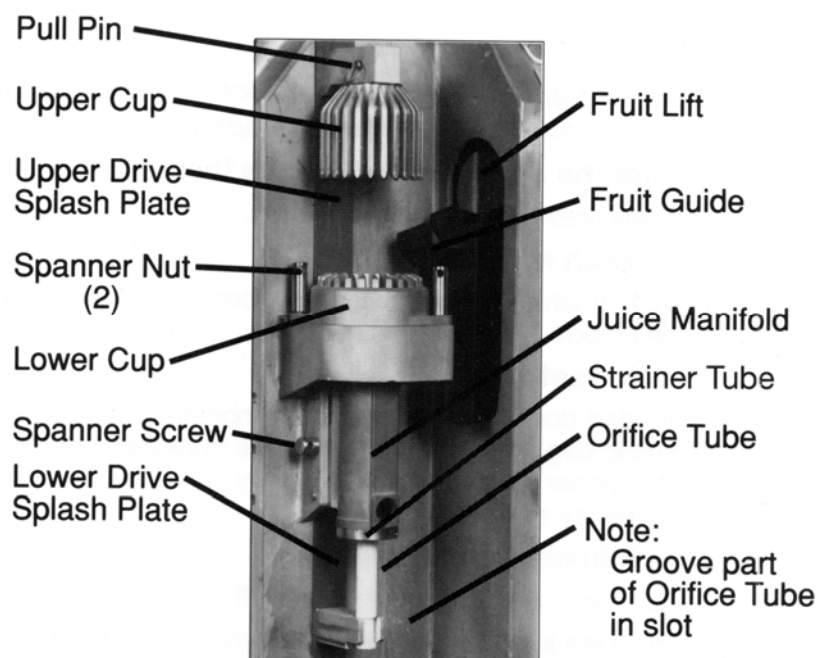

Figure 1b. Juicing Components Assembly
- b. Use key to unlock juicing components cover. Open cover and check that juicing components are installed and securely fastened. See Figure 1b, page 9.